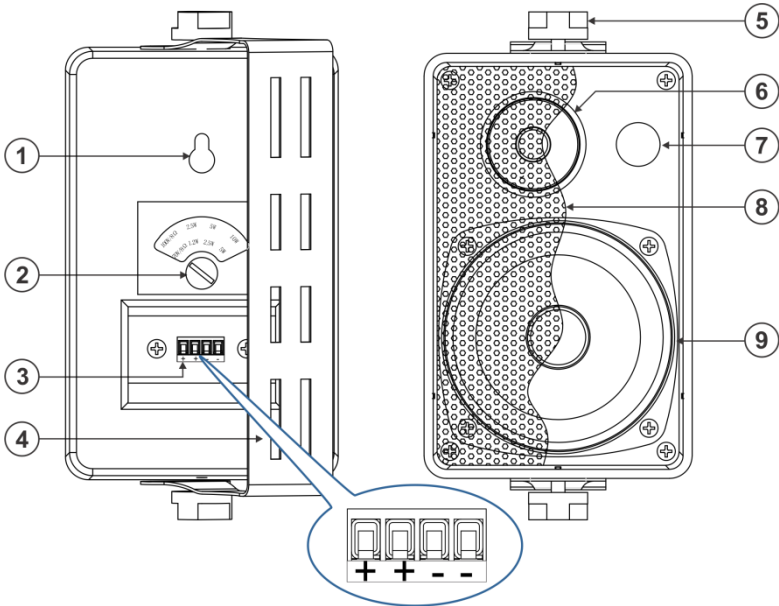

Figure 1: Yarden 4-O
5. Connect one of the + and – terminal block pairs on the rear panel (see Figure 1) by connecting the wire from the: